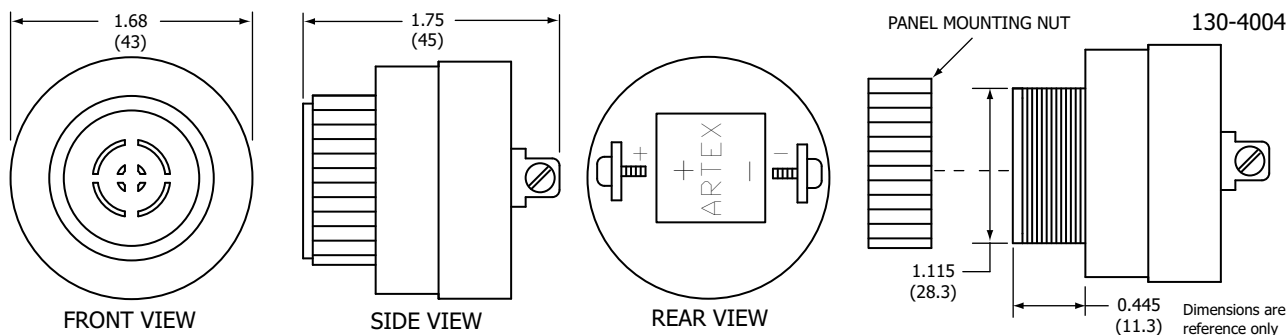

Figure 19. Buzzer Outline and Dimensions
- (1) Fabricate a bracket suitable for supporting the buzzer. Buzzer dimensions are shown in "Figure 19. Buzzer Outline and Dimensions".